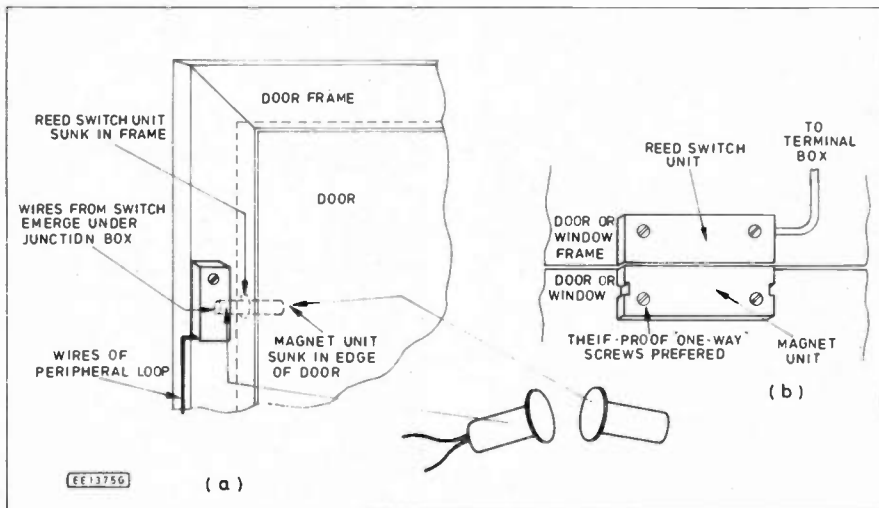

Fig. 1.3. Two types of magnetic reed switches.
**1 Magnetic reed switches:** Fig. 1.3 shows two types. The surface-mounting type (b) is suitable for metal-framed windows, but the recessed type (a) is preferable since it is invisible when the door is closed, thus giving greater security as well as a neater appearance. Magnetic switches often have four